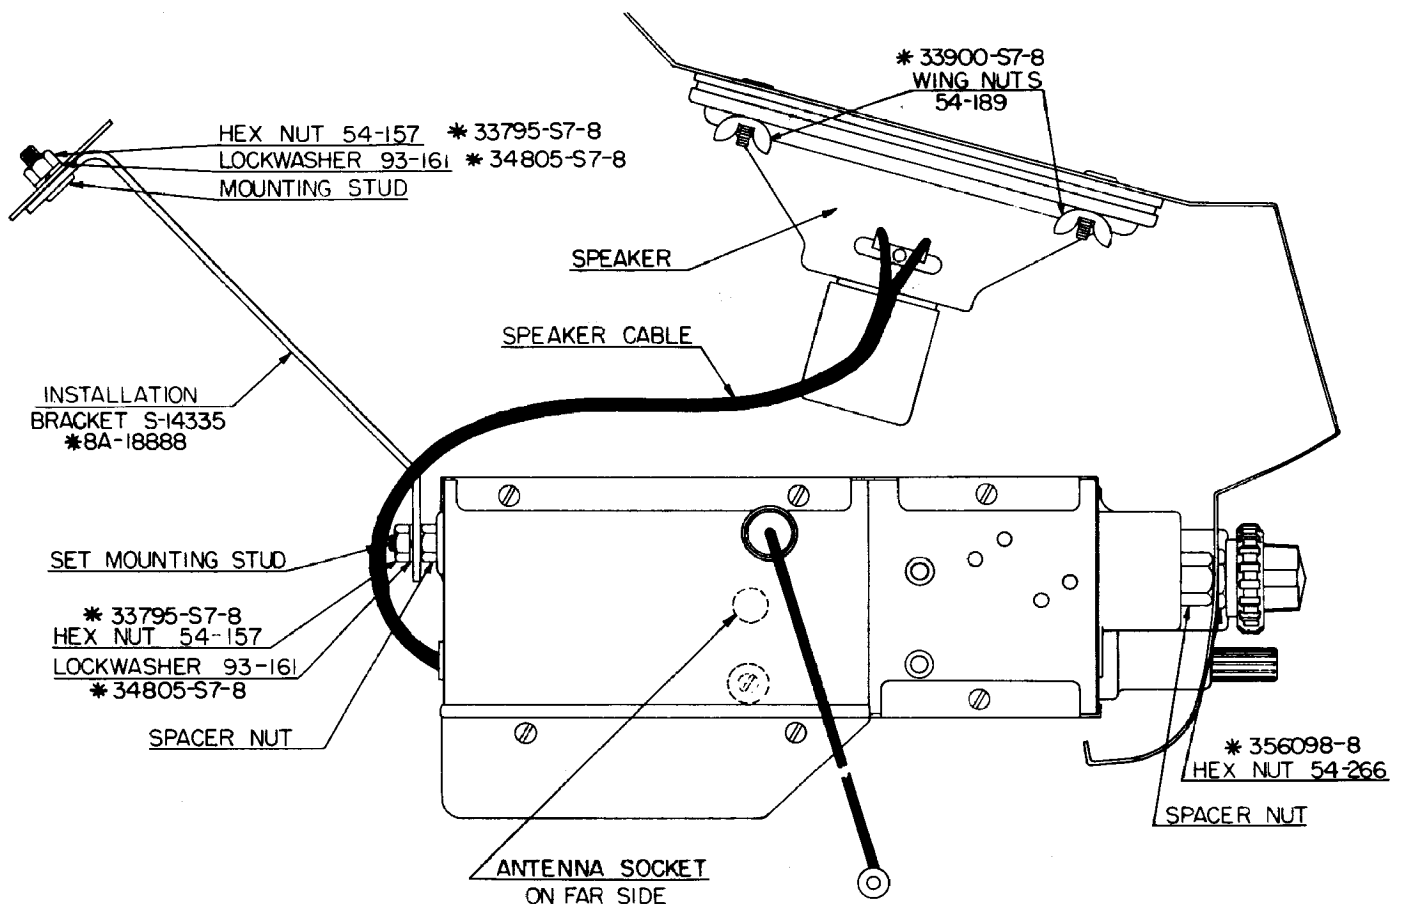

Fig. 1. Set Installed, Cut Away View
Figures 1 and 2, illustrating the escutcheon plate, control knobs and the installed receiver, are given here to facilitate removal and reinstallation of the receiver when service or repair is necessary.
1. Disconnect the "A" lead, the speaker cable, and the antenna from the receiver. (Fig. 1.)
2. Remove the volume control, tone control, trim and tuning knobs from the set. Remove the two front hex-nuts 54-266. Disconnect the bottom of the set rear mounting bracket S-14335 by removing the hex-nut 54-157, and lockwasher 93-161 from the set rear mounting stud, and take the set from its position behind the instrument panel. (Fig. 1.)
3. To take the speaker from behind the instrument panel remove the four 8-32 wing-nuts No. 54-189. (Fig. 1.)